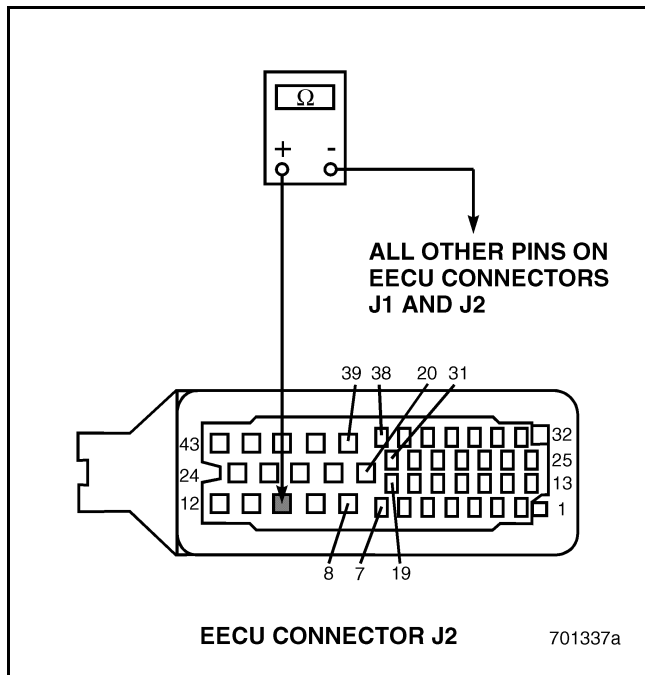

Figure 726
3. Check for continuity between EECU connector J2 pin 10 and all other pins on EECU connectors J1 and J2. Do not check pins 22 and 41 on EECU connector J2 (see Figure 726).